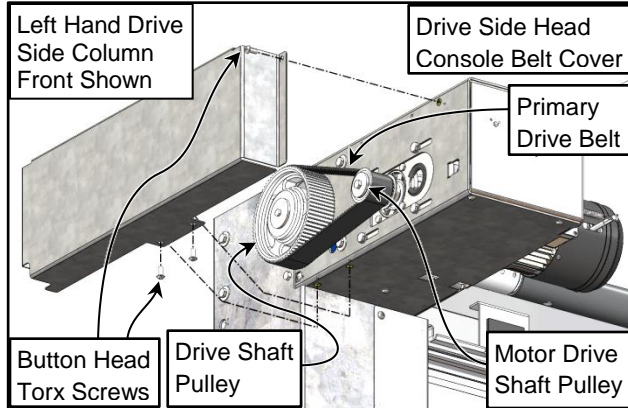

Figure 50
The primary drive belt that runs from the gearbox pulley to the primary drive shaft pulley is behind the drive belt guard located on the left end of the head assembly. (See Figure 50)
3. Remove the primary belt guard cover from the drive side head console assembly. It is held in place by Button Head TORX® screws. (See Figure 50)